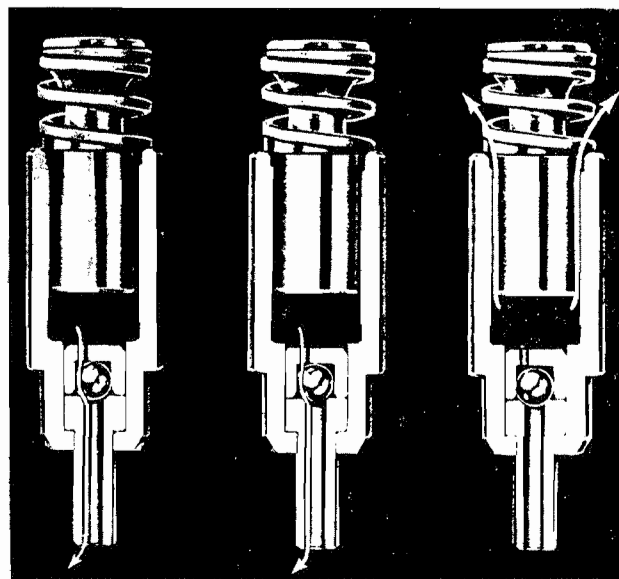
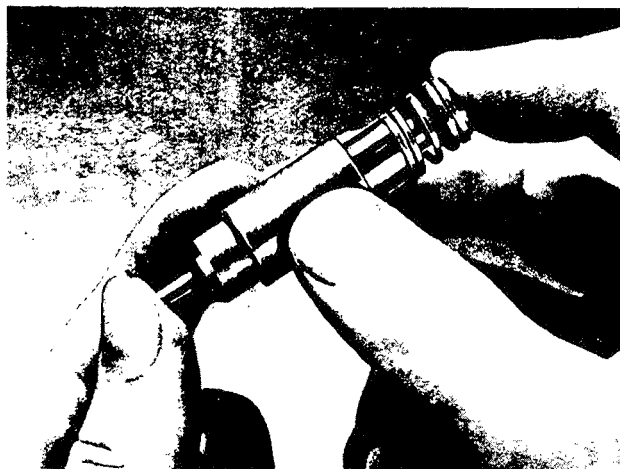

FIGURE 38. DEFECTS OF HYDRAULIC UNIT CHECK VALVE.
FIGURE 39. TESTING ACTION OF CHECK VALVE.
a. Air is escaping past the check-valve because of dirt which prevents the ball from seating properly. (See left hand view, Figure 38.)
b. Air is escaping past the check-valve because of damage to the ball seat. (See center view, Figure 38.)
c. Air is escaping because the clearance between the plunger and cylinder wall is too great, indicating excessive leak-down rate. (See right hand view, Figure 38.) First, determine whether the condition is due to a leaking check-valve. To do this, place a finger over the tube at the bottom of the cylinder, as shown in Figure 39. Now, depress the plunger again and release quickly. If it kicks back properly, the fault lies with the check-valve. In this case, rewash the unit to eliminate the possibility that dirt might be fouling the check-valve. Now, repeat the test without holding the finger over the tube. If the plunger still does not kick back, then the check-valve is damaged and the entire unit (cylinder and plunger) should be discarded.